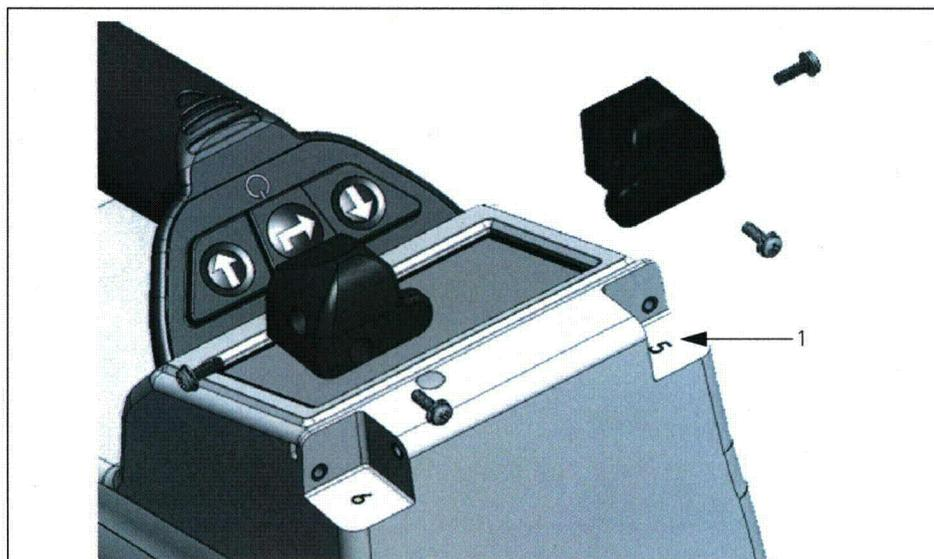

Figure 3-56 Removing the front left and right bumpers
3. Install bumpers as indicated by the location number (Figure 3-56) on the unit and bumper. Install the screws with lock washers.